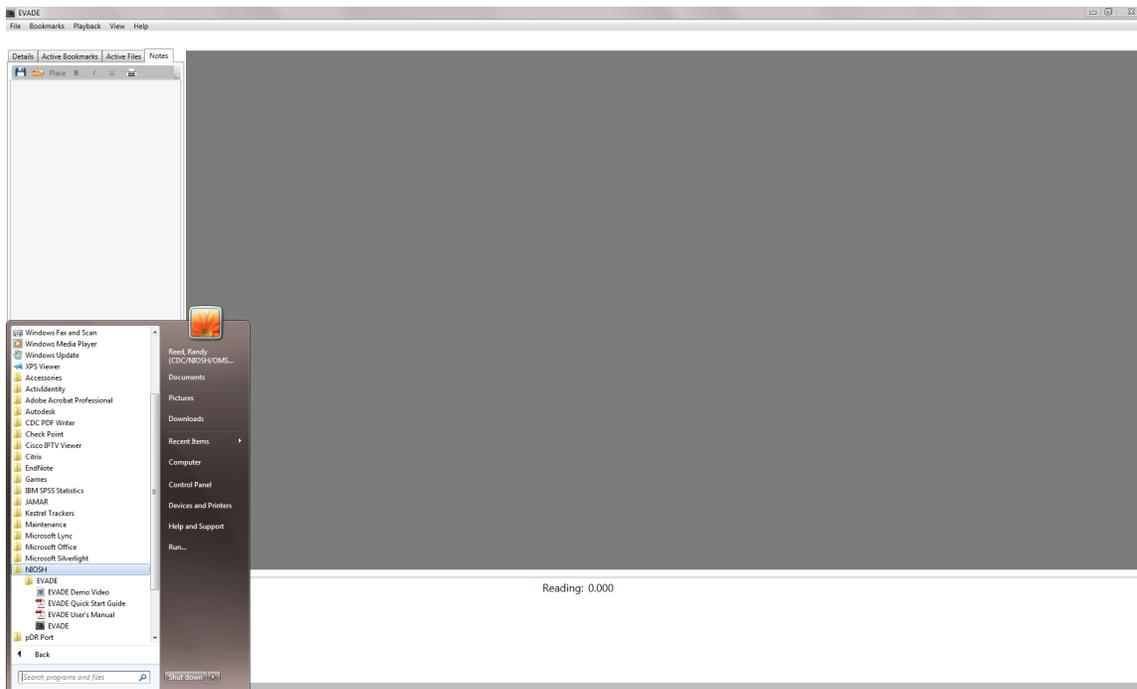

Figure 14. The Start menu showing the location of the EVADE software, User's Manual, Quick Start Guide, and EVADE Demo Video.
13. EVADE can also be started from the Start menu by selecting All Programs/NIOSH/EVADE and then selecting EVADE (Figure 14).